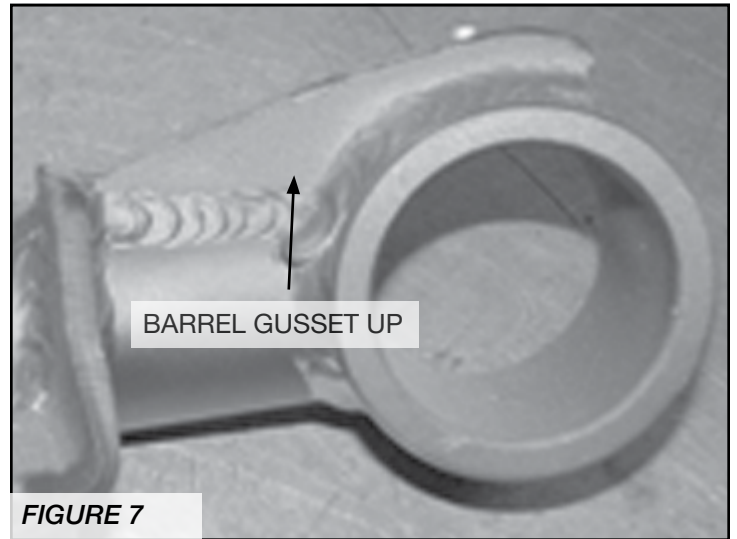

**FIGURE 5**
11. If installing Dirt Logic shocks, install the upper shock mount (FT20484) into the factory upper shock tower using the using two 9/16"-12 x 1-1/4", washers and lock nuts. If installing FTS6341 (stealth) without blue shaft seal install FT20740. If your FTS6341 has a blue shaft seal you do not have to install the FT20740. **SEE FIGURE 5**